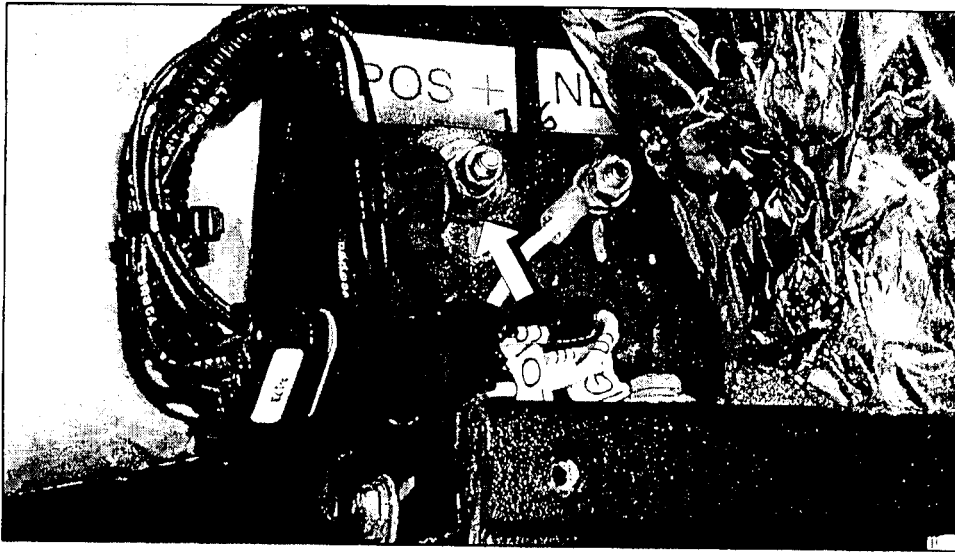

Figure 10.
- Using the mounting hardware removed in Step 6, re-install the positive and negative wires to the studs (Figure 10). Re-install the rubber boot over the positive terminal stud.